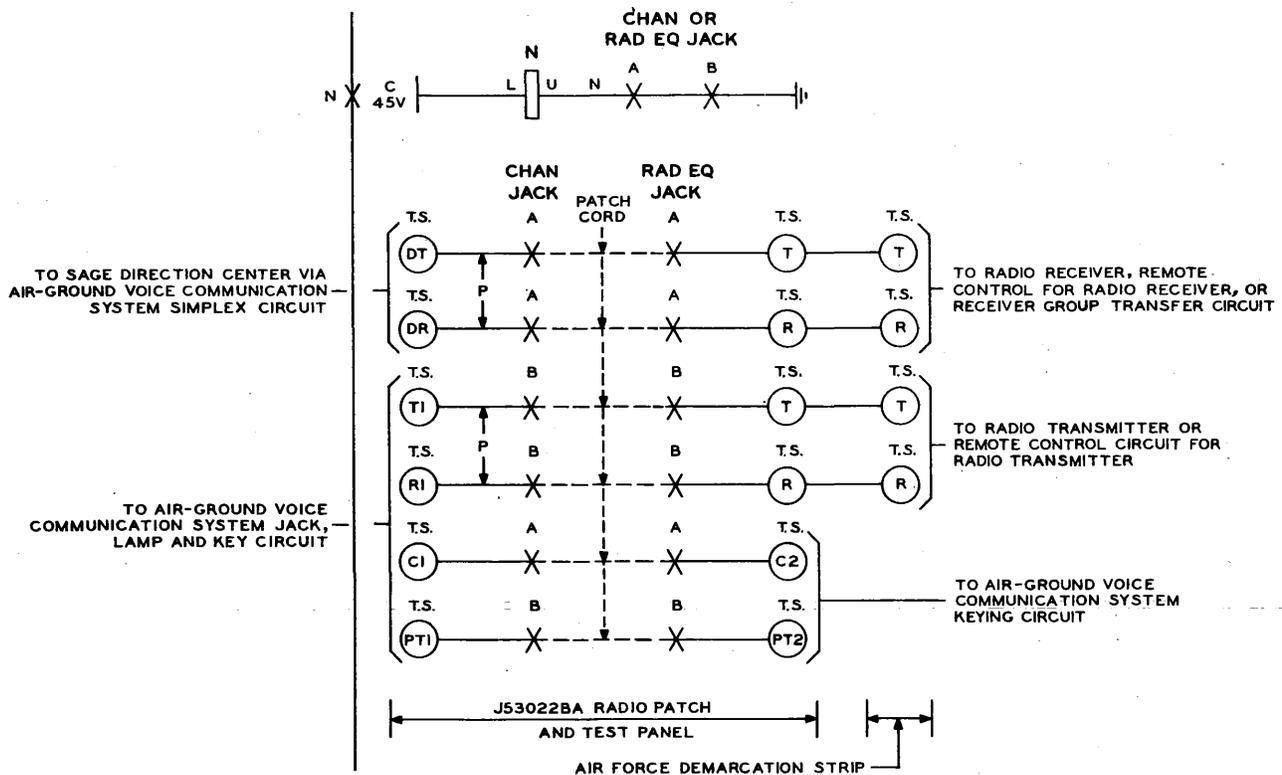

FIG. 3 — CHANNEL PATCHED TO RADIO EQUIPMENT
3.08 Inserting one end of a P6E patch cord in a CHAN jack puts ground through the auxiliary contacts of the B and A jacks to the N lead to operate the N relay. This opens the six leads to the associated radio equipment (Fig. 3).